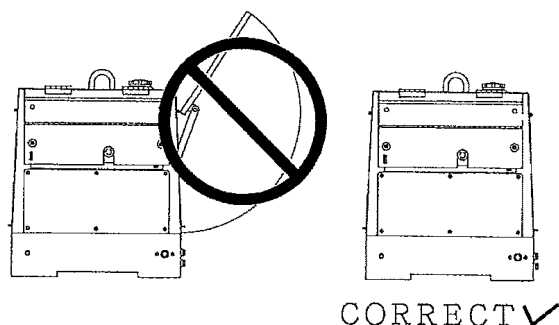

Figure 19. Generator Doors
2. **NEVER** operate the generator with the doors *open* (Figure 19). Operation with the doors open may cause insufficient cooling of the unit, and engine damage may result. Close the doors for normal operation.